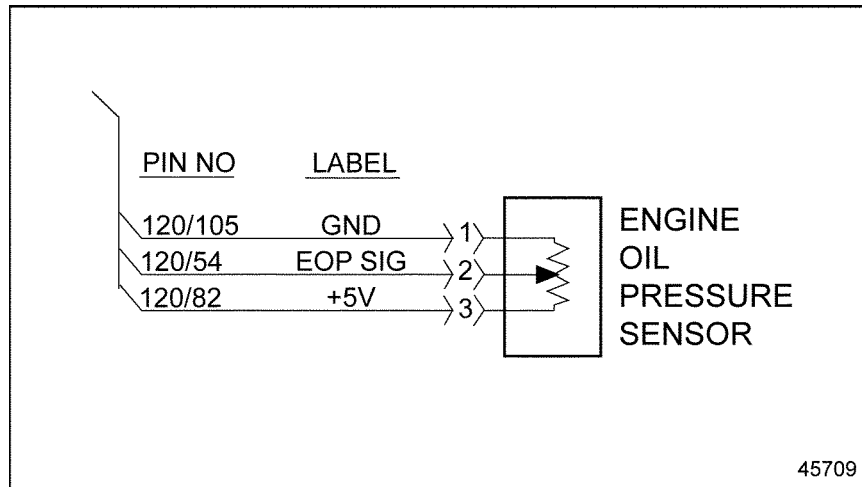

Figure 7-1 Engine Oil Pressure Sensor Wiring
- [c] If only fault code 100/2 is active, check and clean sensor contacts (remove any corrosion). See Figure 7-1. Refer to section 7.2.1.1.